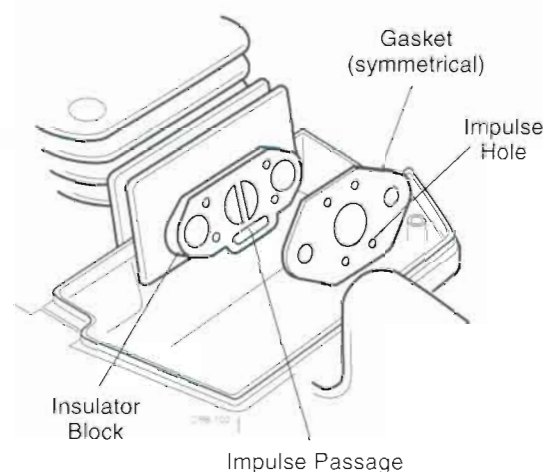

Figure 3.39 Impulse Passage Locations
- Install the carburetor on the saw in the reverse order of disassembly. Make sure the impulse passage holes in the gasket align with the impulse hole in the insulator block (Figure 3.39).